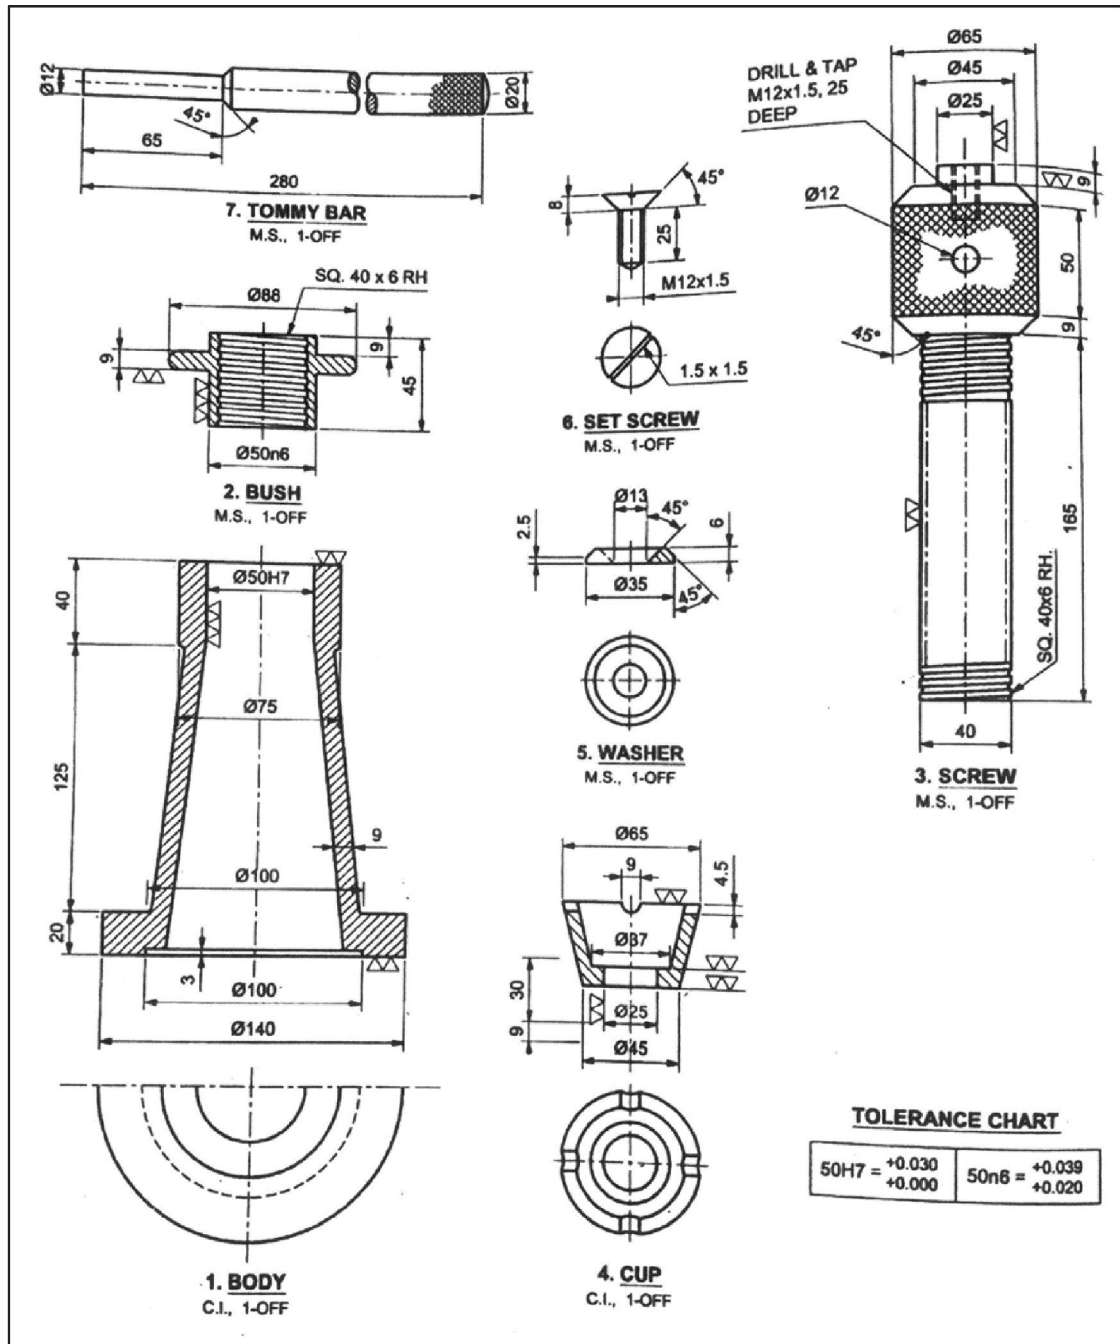

Fig. No.-5
- (b) Fig. No. 5 shows the details of screw jack :